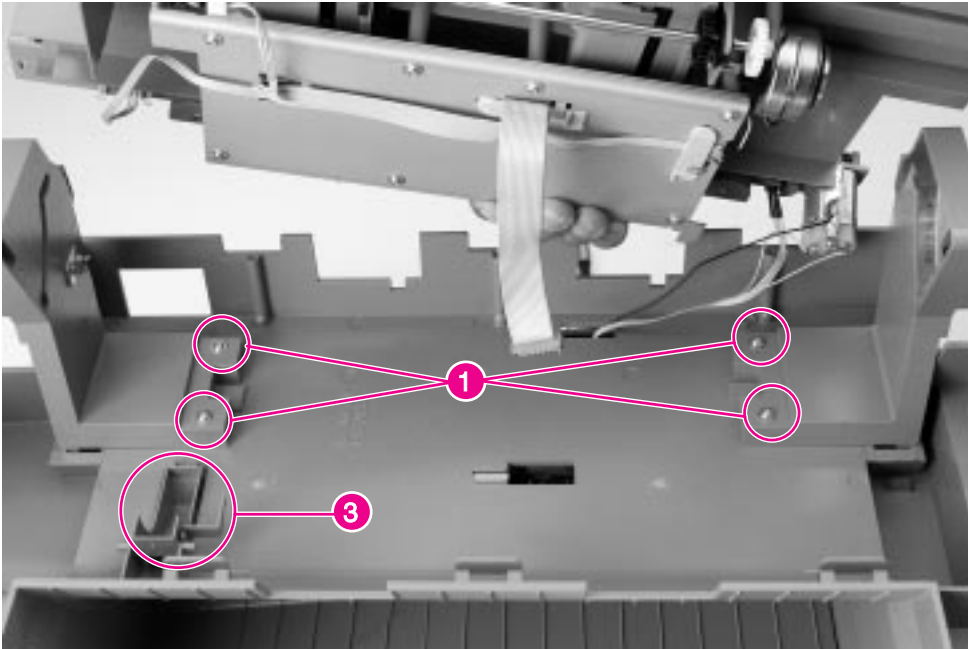

Figure 6-88 Hinges
Make sure that the actuator is in its proper place before replacing the Stapler Bed Assembly (see figure 6-88 on page 258, callout 3).
- 5 Remove 2 screws joining each hinge to the housing (see figure 6-88, callout 1).